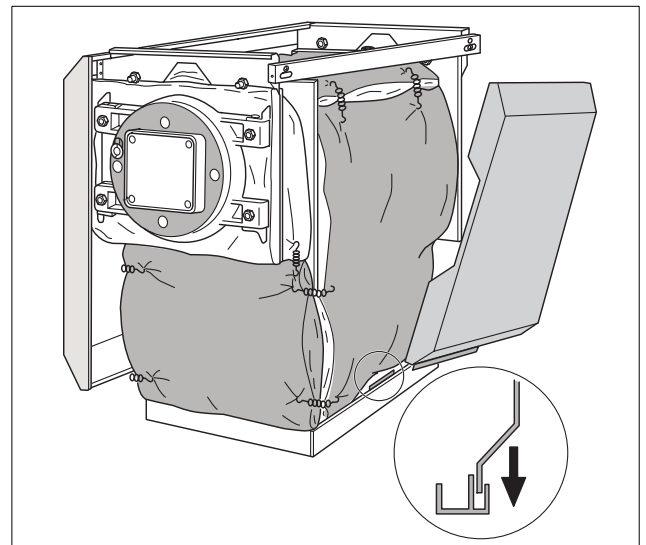

Fig. 9 Installation of side jacket panels
- Insert the side jacket panels into the narrow edge of bottom rail (Fig. 9).